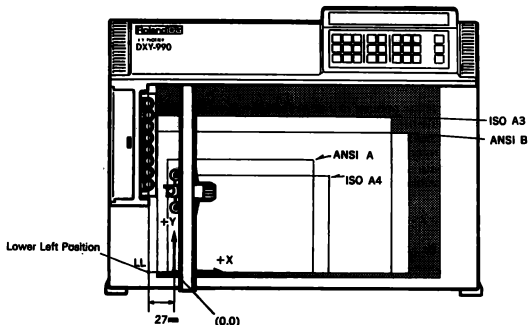

Fig. 5-3
In Fig.5-3, ISO A3, ANSI B, ISO A4 ANSI A indicate the paper size and can be changed either the DIP switch 1-⑦, 1-⑧ or the PS command.
The X and Y directions are shown in Fig. 5-3.